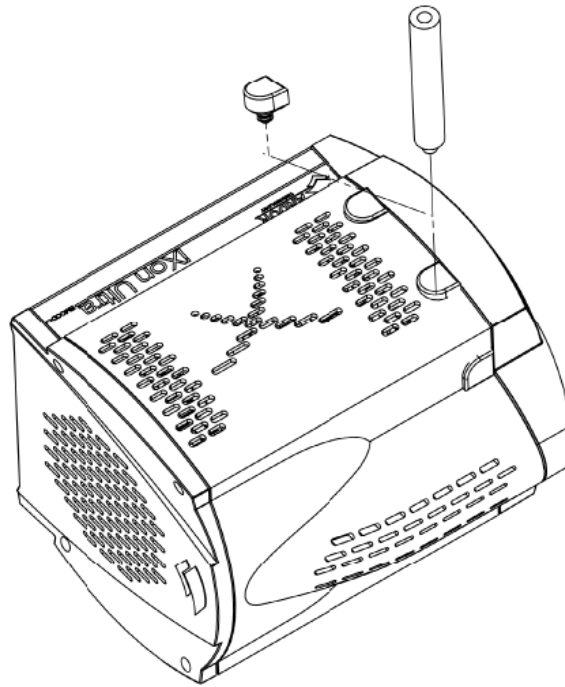

Figure 8: Attaching the Mounting Posts
1. Carefully remove the black grommet(s) as shown in **Figure 8**.